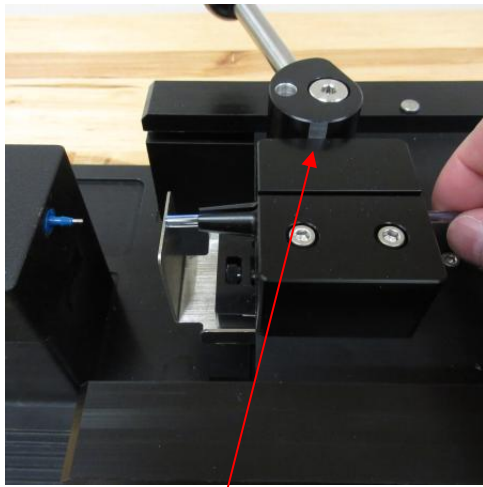

Figure 7
- Open the jaws to the semi open position by rotating the cam until the flat is resting on the jaw (Figure 7)
- With the jaws in the semi open position, insert tubing into jaws up to the stop gate and close the jaws on the tubing using the jaw action cam. (Figures 7&8)